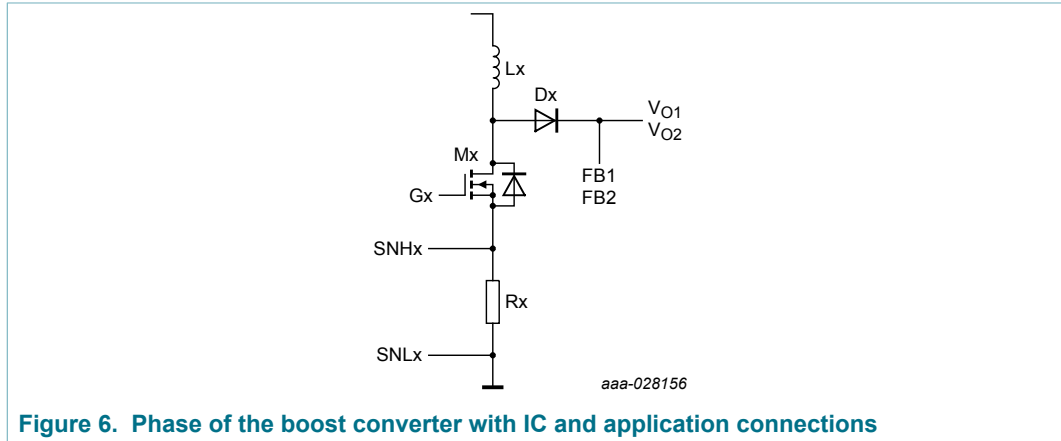

Figure 6. Phase of the boost converter with IC and application connections
- [2] See Figure 6 and Figure 19 for recommend connections for pin FB1 and FB2.
The ASL2507SHN offers two phases. Each phase consists of a coil, a resistor, a MOSFET and a diode as shown in Figure 6.